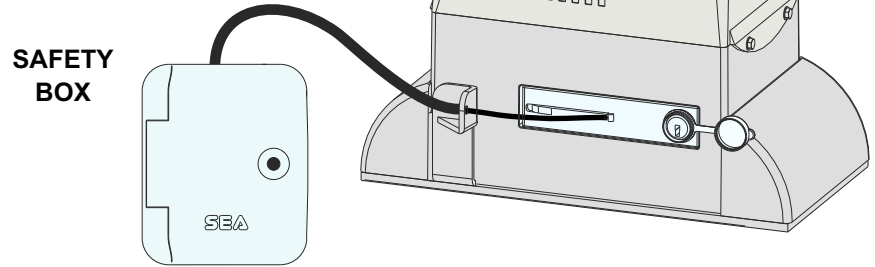

Fig. 33
**11.1.** An external release system wired to a safety box can be connected to the LEPUS operator, as shown in Fig. 33